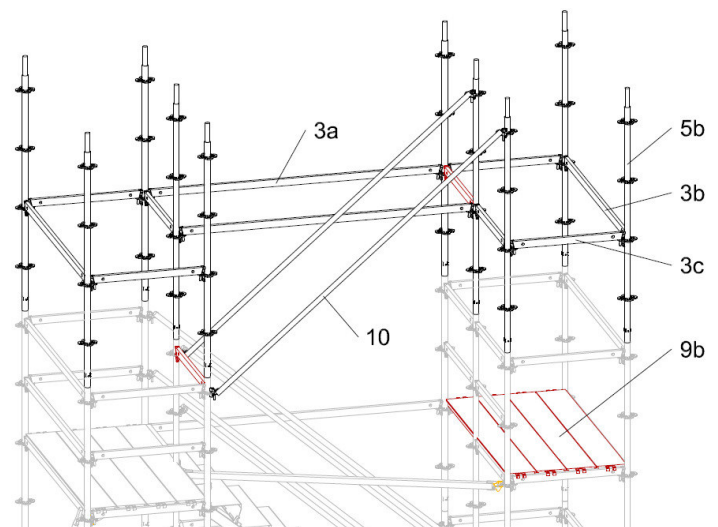

Fig.A6-3
Remove UVR 200 (5a) and UBK 250/200 (10). (Fig.A6-3)